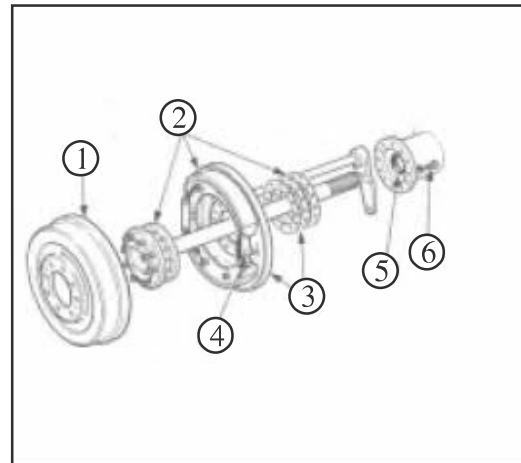

Fig. 2
4. Slacken the brake adjuster. (Item 4 in Fig 2).
5. Remove the brake drum. (Item 1 in Fig 2).
7. Remove 12 bolts securing the retainer hub to Axle Housing. (Item 6 in Fig 2).
8. Withdraw the axle shaft complete with shims hub and bearing assembly and brake assembly. (Item 2 in Fig 2).
9. Remove the brake assembly and shims from the shaft. (Item 3 in Fig 2).